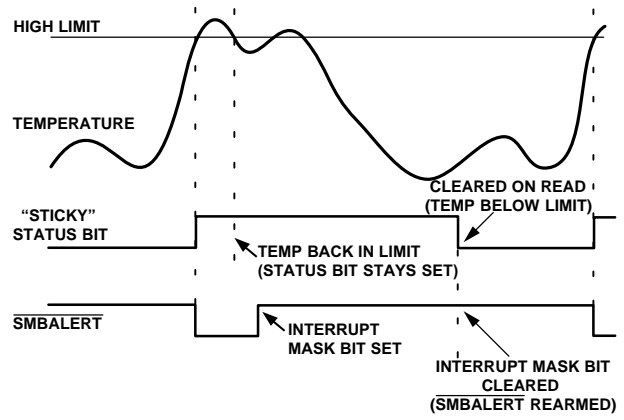

Figure 35. How Masking the Interrupt Source Affects SMBALERT Output
7. Periodically poll the status registers. If the interrupt status bit has cleared, reset the corresponding interrupt mask bit to 0. This causes the $\overline{\text{SMBALERT}}$ output and status bits to behave as shown in Figure 35.